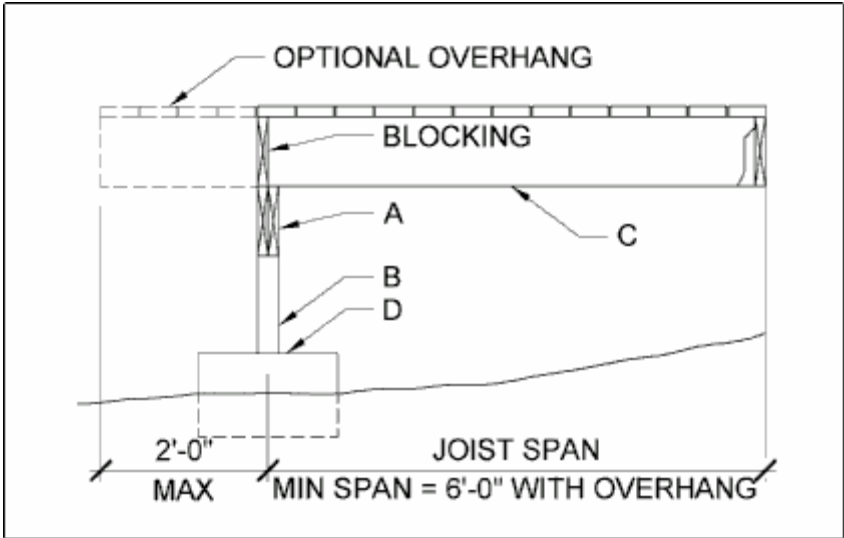

Figure 1 - Joist Span – Deck Attached At House
- Determine how big and what configuration you want your deck. **Note:** The drawings contained in this document may indicate square or rectangular configurations; however, configurations can be diamond, trapezoidal, or other shapes as long as the longest spans are used to determine beam, joist, and footing sizes. The deck can have up to a two-foot maximum joist and/or beam overhang. See Figures 1, 2, and 3. (Beams are identified as item “A”, posts as item “B”, joists as item “C,” and footings as item “D.”) **It is recommended that you first determine the joist span “C,” and then note what beam and footing sizes you will need.**
The span of a joist is measured from the centerline of bearing at one end of the joist to the centerline of bearing at the other and does not include overhangs. Maximum joist span lengths are noted in Tables 2 and 3. See Figures 1 and 2 for joist span types.